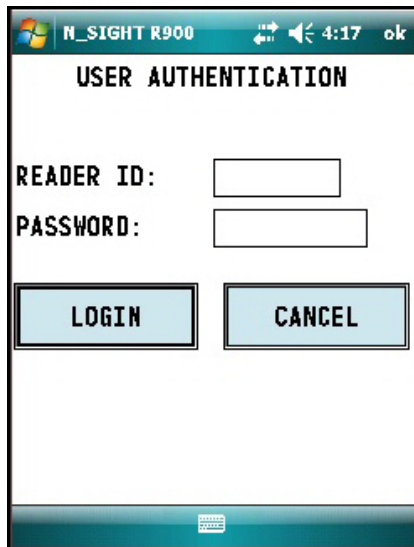

Figure 49 Reader ID Input
- 4 Type your reader ID and password (if applicable) for the host software. Click **LOGIN**. See Figure 49.